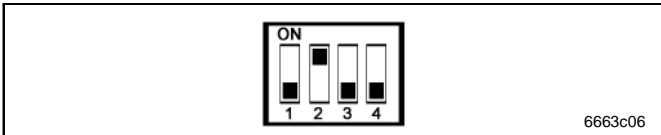

Fig. 23 DIP switch: Two-line systems – ready for operation)
- After that, switch SW4 back to OFF (Fig. 23).